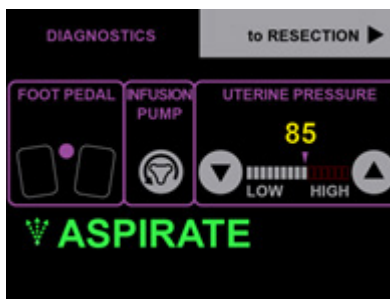

Figure 33
- Aspiration (Fig. 33) can be activated by pressing the center button on the footswitch (Fig. 3, Item 3). This will circulate the fluid through the Infusion and Aspiration Tubes. RESECT (Yellow) and COAG (Blue) footswitch pedals will not work in diagnostic mode.
To begin Resection Mode, press the “to RESECTION” tab on the top right corner of the screen on the Controller (Fig. 33).